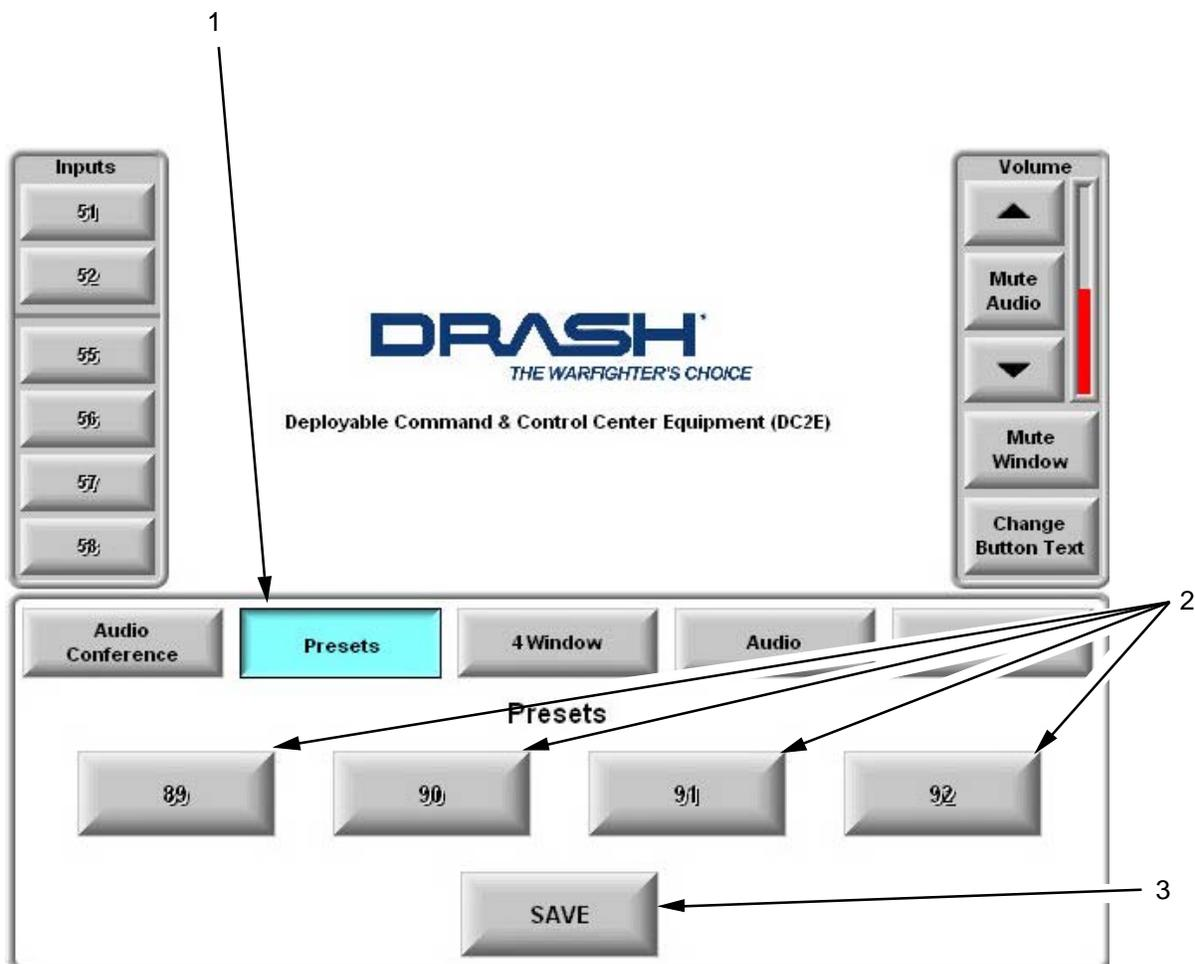

Figure 20: Presets Page.
2. Select the Presets Button (Figure 20, Item 1) to access the Presets page (Figure 20).
3. Select the SAVE button (Figure 20, Item 3) on the bottom of the Presets pages (Figure 20).
4. Select the desired Preset Button (Figure 20, Item 2). If the user does not make a Preset selection within the five seconds, the save function will time out.